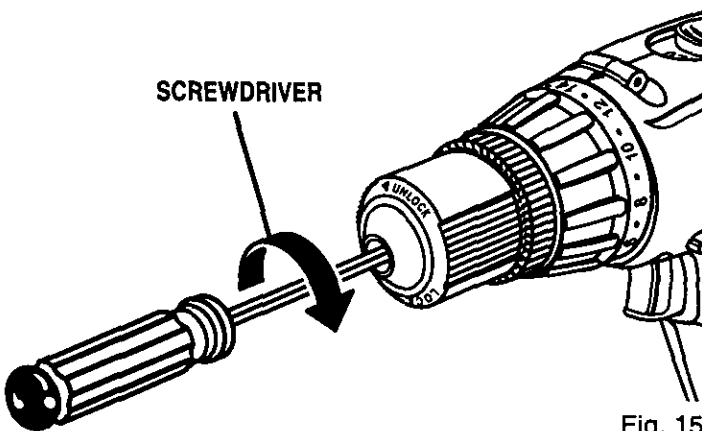

Fig. 15
- Open chuck jaws and remove hex key wrench. Remove the chuck screw by turning it in a clockwise direction. See Figure 15.